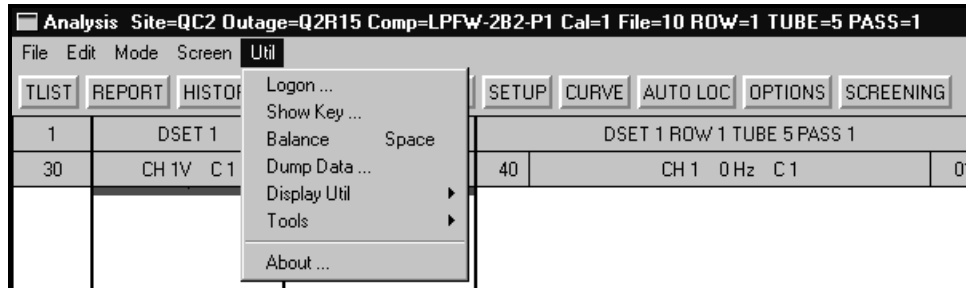
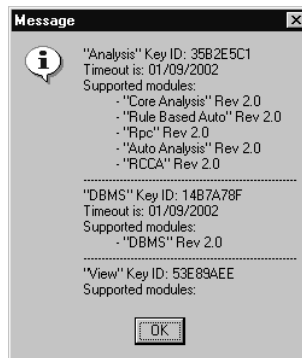
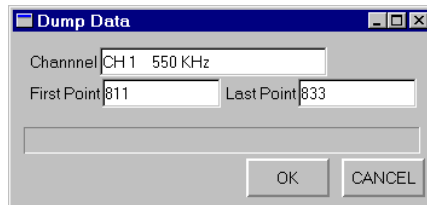
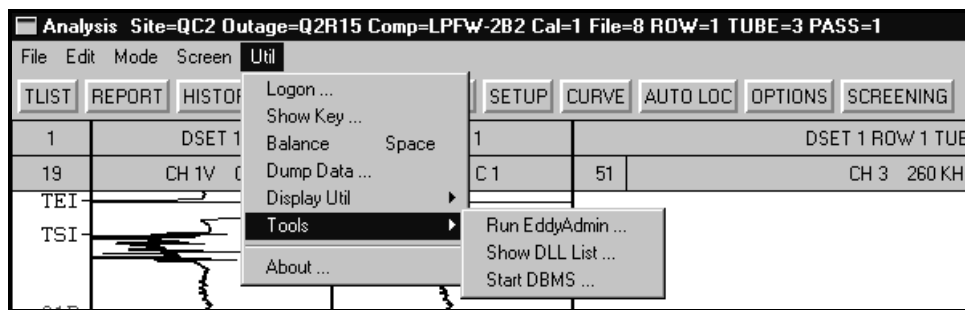

Figure 3-21. Util Menu
Figure 3-23. Show Key Message Box
Figure 3-24. Dump Data Window
Figure 3-27. Tools Fly-out
As shown in Figure 3-21, the **Util** menu contains seven (7) items. **Util** is an abbreviation for *Utilities*. Each menu choice is explained in detail in the following paragraphs.
- ❑ **Util > Show Key ...:** Selecting the **Util > Show Key ...** menu item in Figure 3-21, causes the system to examine the HASP[®] security key(s) currently connected to the computer. Information about the key(s) is collected and reported in a message box similar to the one shown in Figure 3-23. Security key information includes the **Key ID** number(s), the **Timeout** date(s), and the CoreStar software (**Supported modules**) that can be used with each key. This information should be checked if an error message box, similar to the one shown in Figure 2-8, appears.
- ❑ **Util > Balance:** Selecting the **Util > Balance** menu item in Figure 3-21, causes the system to balance or null the eddy current data displayed in the Lissajous window. The software balances the data based on the data point where the centerline of the cursor is located. The shortcut key on the keyboard for **Balance** is the space bar as shown in Figure 3-21. Alternatively, **right-clicking** in any Lissajous will balance the data as well.
- ❑ **Util > Dump Data ...:** The **Util > Dump Data ...** menu item in Figure 3-21 displays the dialog shown in Figure 3-24. Using this interface, selected segments of eddy current data for a particular channel can be saved in binary file format. Files are saved to the *x:\corestar\data_dumps* subdirectory with the extension *.dmp*, where 'x' is the drive on which the CoreStar analysis software is installed. This function and the resulting files are primarily a research tool and serve no practical application for typical eddy current analysis. For more information regarding the **Dump Data ...** feature, contact the Irwin, PA office.
- **Util > Tools:** Selecting the **Util > Tools** menu item in Figure 3-21 causes a fly-out menu to appear as shown in Figure 3-27. Each item is discussed in detail below.
- **Util > Tools > Start DBMS ...:** Selecting **Start DBMS ...** from the **Util > Tools** fly-out menu shown in Figure 3-27 simply starts the EddyVISION32 DBMS (Database Management) Software. The software and a valid security key for the DBMS software module must be installed on the computer in order for the DBMS software to run.
- **Util > About:** Selecting the **Util > About** menu item shown in Figure 3-27 displays a dialog containing information *about* the EddyVision32 software currently installed on the computer, including: version identification, build date/time, copyright, and contact information.